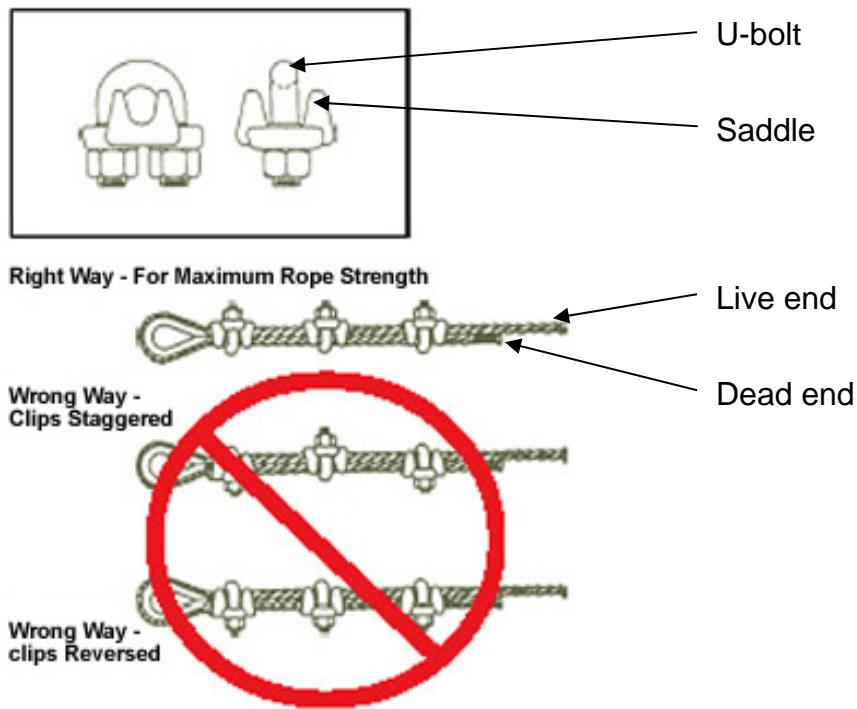

Figure 5
Attach the $\varnothing 5/16"$ tower guy cable (without crimped eye) to the eye of the turnbuckle furthest from the center foundation using an open $1/2"$ thimble. Squeeze the thimble closed before proceeding. Secure cables into position with three (3) $5/16"$ saddle clamps. Refer to saddle clamp installation procedure in Figure 5, and make the dead end approximately 30 inches long.
Attach the remaining Ø3/16" guy cables (not attached to couplers) to the remaining turnbuckle eyes, using open 3/8" thimbles; squeeze thimbles closed before proceeding. Secure with three (3) 3/16" saddle clamps per guy cable, installing the shortest closest to the tower base first and working outward with successively longer cables. See drawings D1 and D6 in the manual appendix. Refer to the "Saddle Clamp Installation Procedure" and the illustration in Figure 5 below. The cable "dead end" should be approximately 30 inches at each turnbuckle.
1. Locate the first saddle clamp as near as possible to the thimble with the U-bolt over the dead end and the live end in the clip saddle. See Figure 5 below.
Attach the four (4) guy cables from the tower base pipe coupler to the left-, right-, and down-side foundations and the gin pole end fitting. Use an open 3/8" thimble through the eye of each applicable turnbuckle; squeeze the thimbles closed before proceeding. Pull guy cables taut then slack off approximately six inches before securing with three (3) 3/16" saddle clamps. Refer to the "Saddle Clamp Installation Procedure" and the illustration in Figure 5. As guy cables will be readjusted later during the tuning process, do not risk deforming cables by fully tightening cable clamps. Adjust all the guy cables so that the tower section is plumb.
Attach the gin pole guy cables to their anchors at the left- and right-side foundations. Use open 5/16" thimbles and three 3/16" saddle clamps at each location. Refer to the "Saddle Clamp Installation Procedure" and the illustration in Figure 5. Use a leveling tool to plumb the gin pole with tension adjusted so there are about four inches of sag in each cable.
Attach the bottommost tower coupler's attached guy cables to the lowest available turnbuckles at the left- and right-side foundations. Place an open 5/16" thimble through the eye of the turnbuckle. After placing all thimbles in this manner, squeeze them closed before installing cables and saddle clamps. Pull guy cables taut then slack off approximately six inches before securing with three 3/16" saddle clamps. Refer to the "Saddle Clamp Installation Procedure" and the illustration in Figure 5. As guy cables will be readjusted later during the tuning process, do not risk deforming cables by fully tightening cable clamps.
With the first two (2) tower sections level, attach the second $\varnothing 3/16$ " guy cable between the gin pole end fitting and the open hole in the second coupler guy cable eye, using a $5/16$ " thimble and three (3) $3/16$ " saddle clamps. Pull the guy cable tight. *Note: There will be excess cable at this time, which will be trimmed after the tower has been adjusted.* Refer to the "Saddle Clamp Installation Procedure" and the illustration in Figure 5. It will be easier to tighten saddle clamps if the guy cable is led through the coupler from above and fed back on the lower side nearest the tower base (see Figure 7 below).